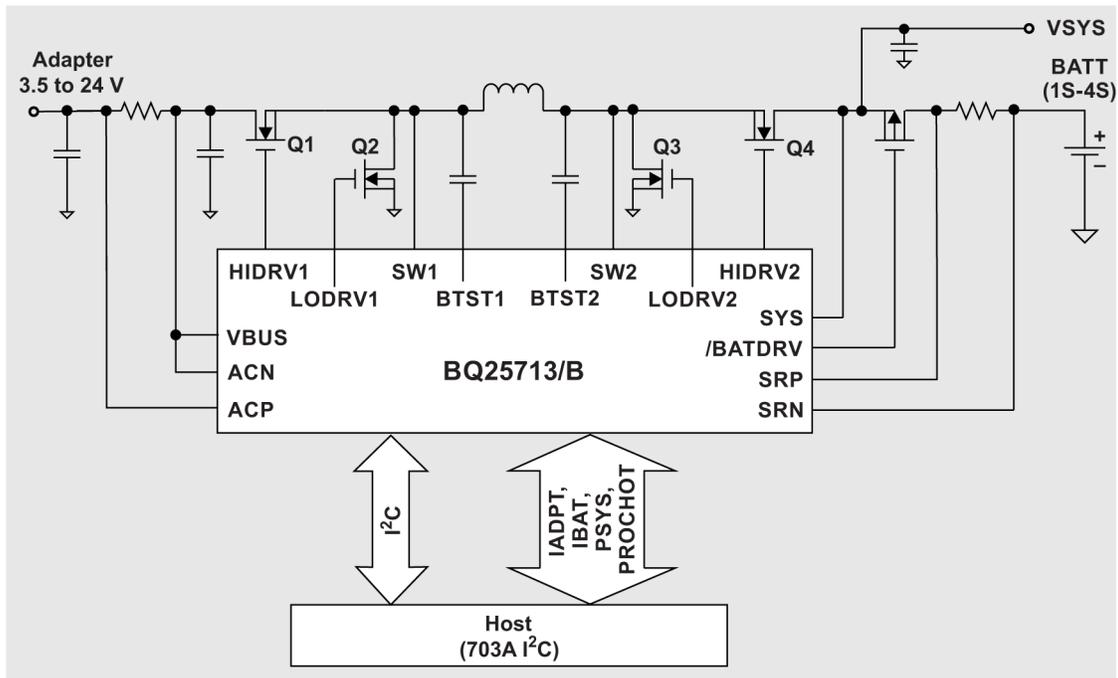

Figure 3. Charging Stage and Dynamic Power-path Management for a 4S Battery Pack
Based on the charging and discharging currents, a battery charger can have external or integrated field-effect transistors (FETs). For example, as shown in **Figure 3**, the BQ25713 from Texas Instruments (TI) is a one- to four-cell buck-boost battery charger controller that can work with a 12-V input. The BQ24610 is a stand-alone one- to six-cell synchronous buck battery charger controller that can work with a 24-V input. Both of these devices are charger controllers and use external FETs to support higher currents. If the load current is 5 A or less, a third device, the BQ25790, is a more suitable charger with integrated FETs.